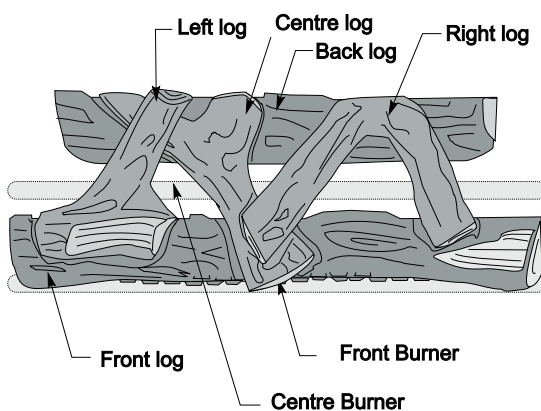

Figure 30a. Proper log placement.
4. Place the top logs in position as shown in **figure 30a**, place the centre log down first, then the right and left logs.